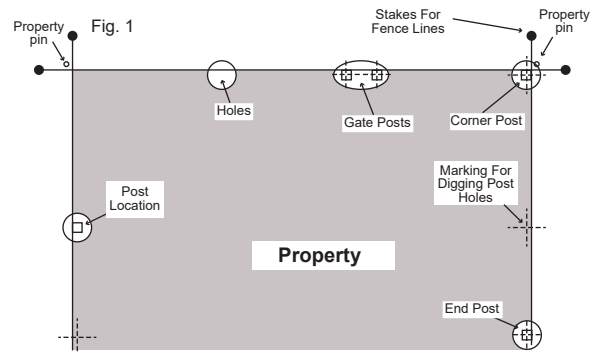

Fig. 2
- Determine the location and size of each gate and mark the location of gate post centers (see fig. 2 for proper spacing).